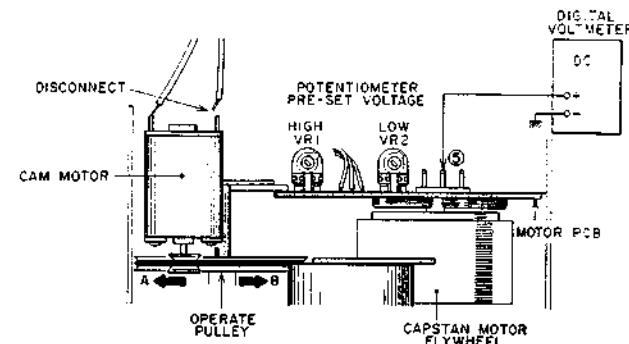
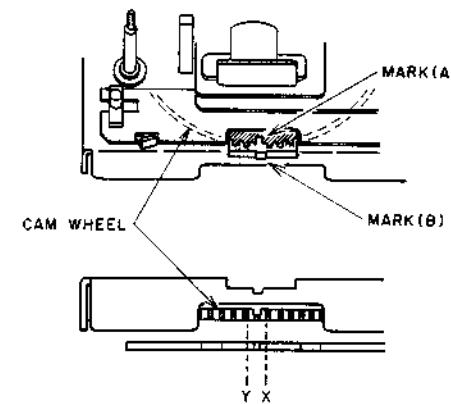

Fig.4-4.
Fig.4-5.
4-4 POTENTIOMETER PRESET VOLTAGE ADJUSTMENT (Refer to fig.4-4 to 4-5)
- Connect the digital voltmeter as shown in fig.4-4.
- With power ON, adjust VR2 so that the voltage reading will be 1.15V (DC).
- Adjust VR1 slightly so that the center of Marker (A) coincides with the center of Marker (B) (should be within the range between X and Y) at STOP Mode as shown in Fig. 4-5. (The marker (STOP) on the CAM WHEEL can be seen clearly by lighting it from the back.)
- With power ON, adjust VR1 so that voltage reading will be 9.08V (DC).